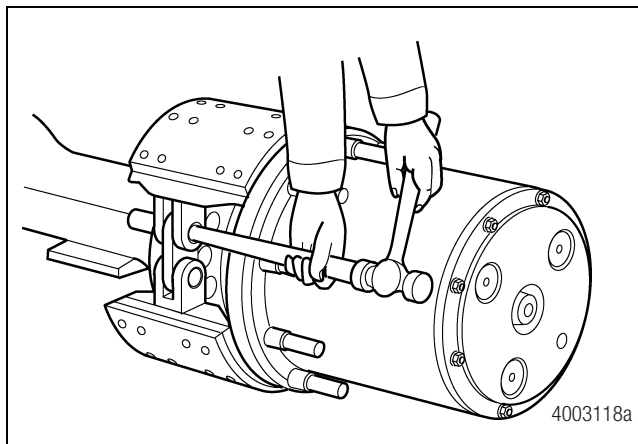

Figure 5.3
3. Use a brass drift to remove the anchor pins. Figure 5.3.